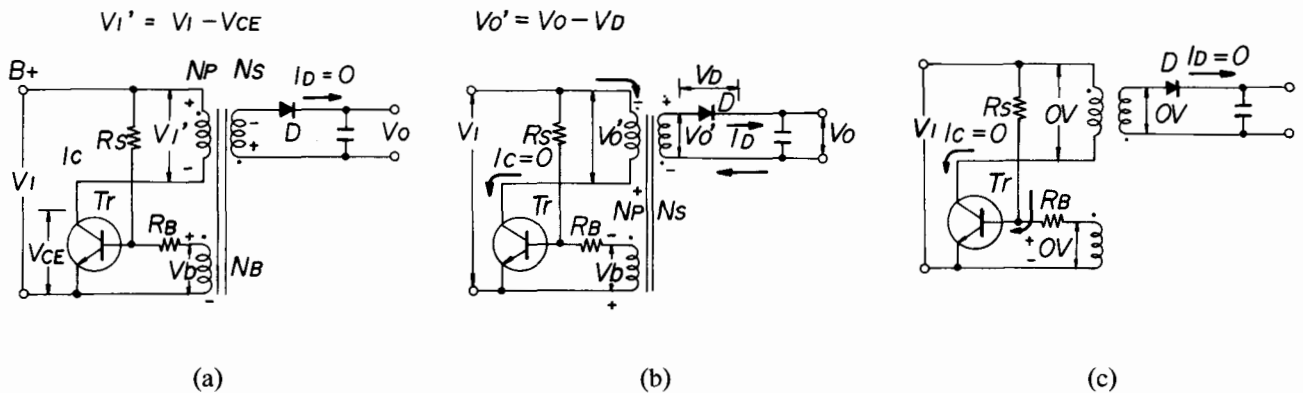

Figure 4-47. R.C.C. (Ringing Choke Converter)
Figure 4-47 shows the principle of the circuit.
- The Block operates like a Boot-up register R_s in Figure 4-47. The Block is made up of Boot-up circuit, output voltage controller and shut-down circuit, and the block controls $TR508$ ⑥.
- This switching transistor operates like a transistor in Figure 4-47.